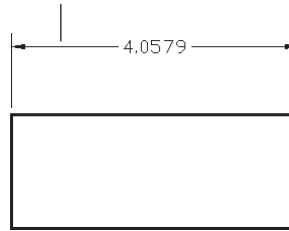

Figure 10.2
2. At the Specify first extension line origin or <select object>: prompt, Shift+right-click, and use an osnap to select the exact location on an object, such as an endpoint or an intersection of two lines on the drawing you're dimensioning (see Figure 10.2).
3. At the **Specify second extension line origin:** prompt, use an osnap to select the other end of the object you're dimensioning, as shown in Figure 10.2.